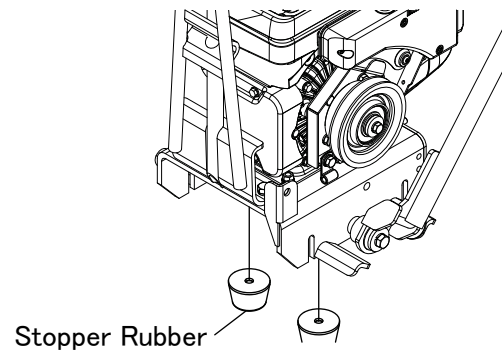

Figure 19. Rubber Stopper Check
2. Replace the stopper rubbers with new ones as required. If the stopper rubbers wear get worn or deformed, the V-belt may slip or the power unit may get damaged See Figure 19.